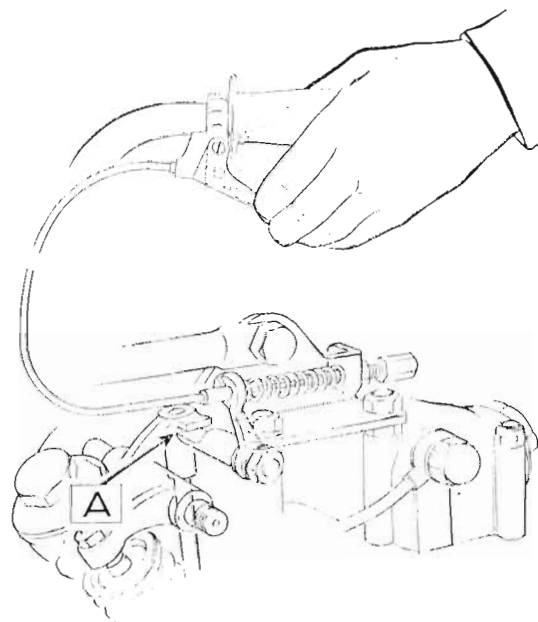

FIGURE 12.
It is essential that the cable length is adjusted so that there is always ample clearance between the lobe on the exhaust rocker arm and the lifter spindle at (A) FIG. 12.